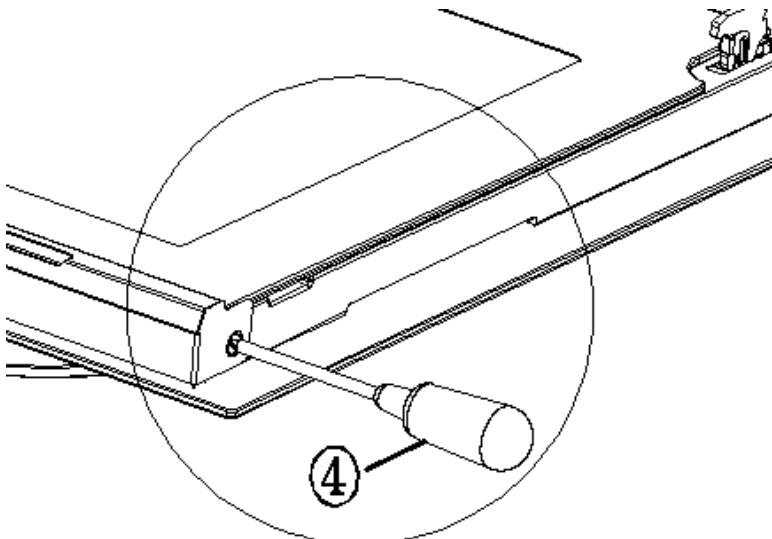

Figure 5
1. To disassemble two screws on the beam with cross screwdriver, as shown in figure 5